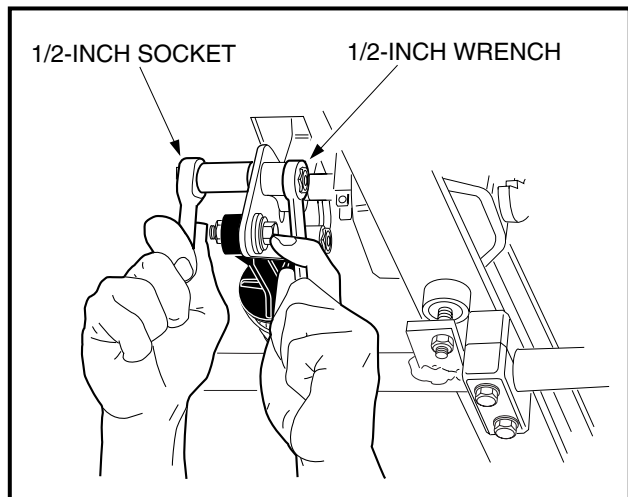
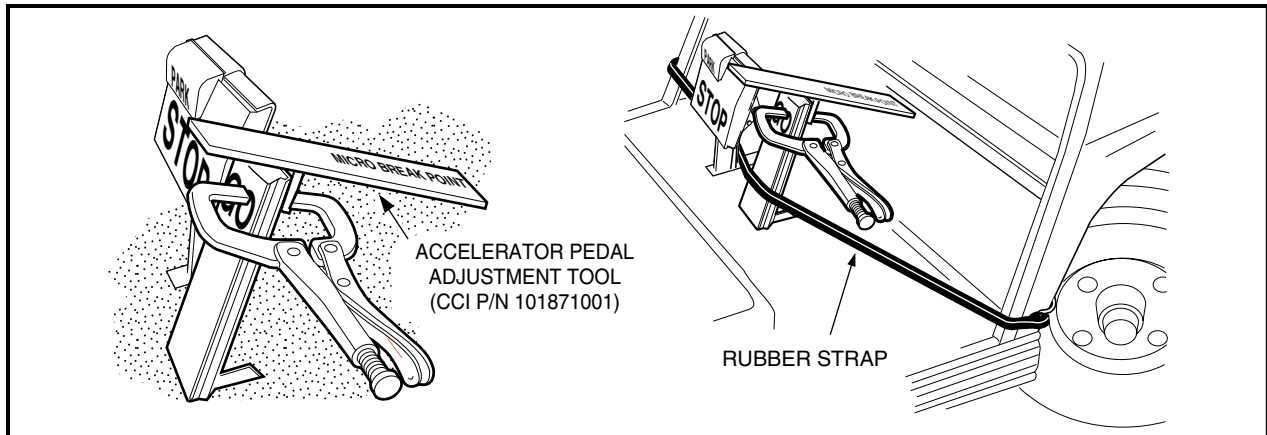

Figure 5-28 Accelerator Pedal Height Adjustment
Figure 5-29 Accelerator Pedal Height Adjustment
- 4.1. Loosen the nut and bolt (**Figure 5-28, Page 5-18**) securing the accelerator pedal to the pivot plate. Clamp the accelerator pedal adjustment tool (CCI P/N 101871001) to the accelerator pedal, with the end marked accelerator pedal height closest to the floorboard. Depress the accelerator pedal until the end of the tool rests against the floorboard; pedal height should be 5-5/8 inches (14.3 cm). Use a rubber strap to hold pedal in position against the floorboard and then tighten nut to 26 ft-lb (35.3 N·m) (**Figure 5-29, Page 5-19**).